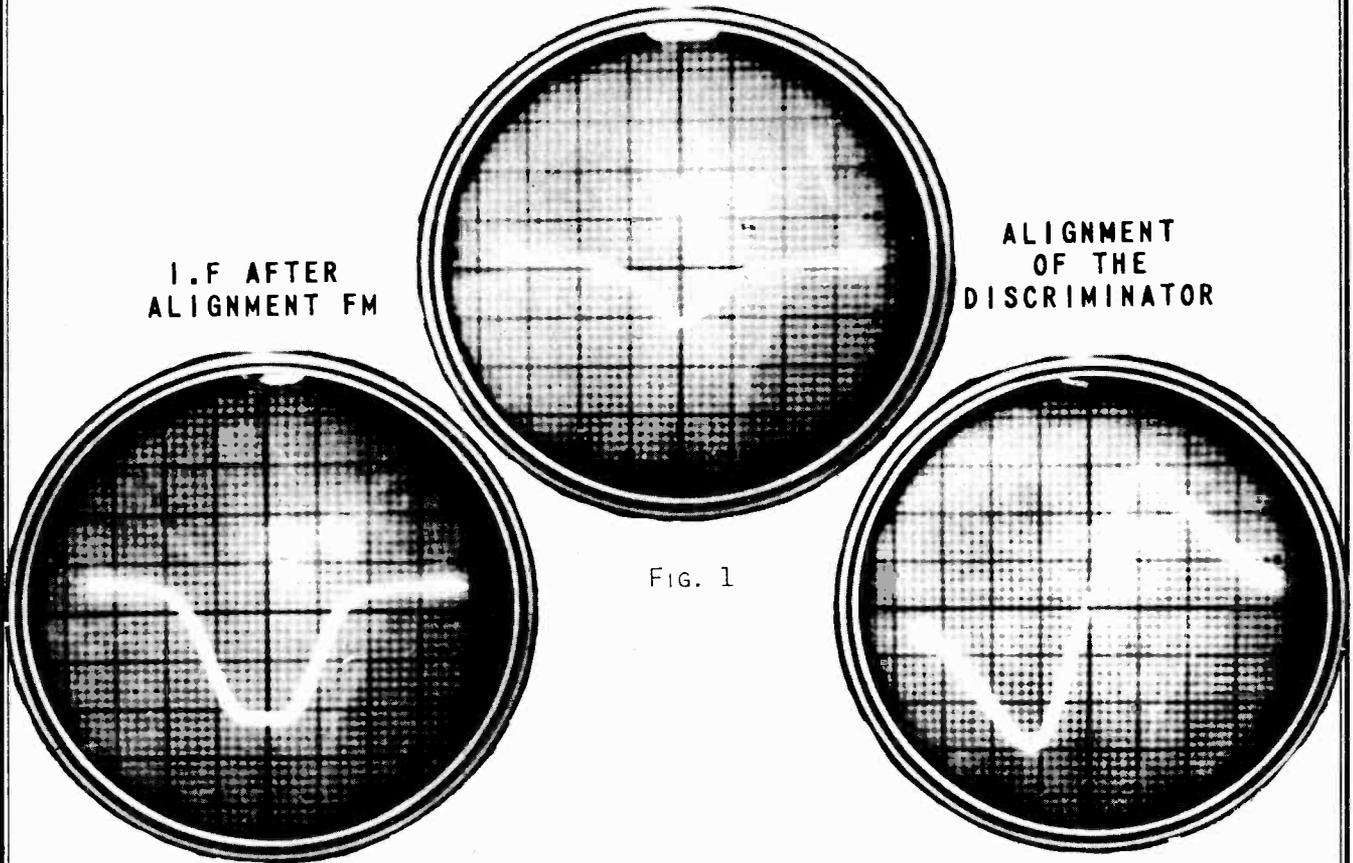

FIG. 1
5. If the station you desire to pick up falls between 1000 and 550 kilocycles, you must remove the pin jack and place in the hole provided at the bottom edge of the upper trimmer (see figure 1).
Limiter Alignment - Connect the ground terminal of the 4.3 Mc I.F. sweep generator to the chassis. Connect the output of the signal generator to the grid of the second I.F. tube with a .1 Mfd. paper condenser in series, adjust the deviation control of the generator for a usable picture on the oscilloscope screen, with the input control of the oscilloscope set at maximum gain. Detune the secondary trimmer of the limiter transformer, adjust the primary trimmer until you obtain a pattern as shown in Figure 1 of the oscilloscope photos. Then adjust the secondary trimmer until you obtain a pattern as shown in Figure 2. The pattern should be kept centered in the oscilloscope screen.